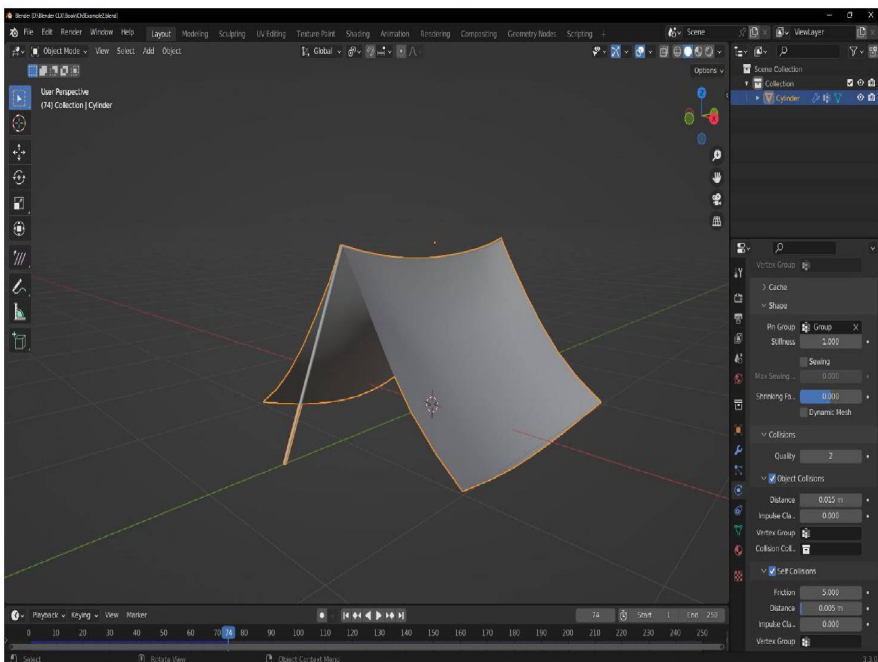

Figure 9.16: Tent sagging from pinned Group using Cloth physics simulation
40. Press the **Play** button in the **Timeline**, and after the fabric and rope sag downward as shown in *Figure 9.16*, press the **Pause** button.